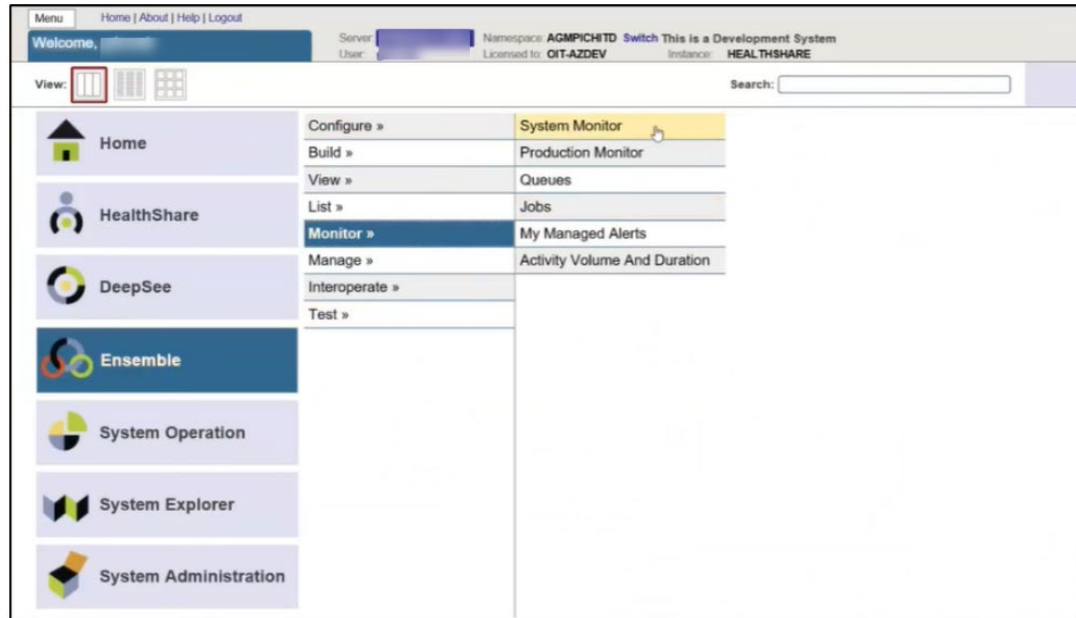

Figure 10-1: System Monitor
1. On the **Management Portal** page, click **Ensemble** and **Monitor**, then **System Monitor** (Figure 10-1).